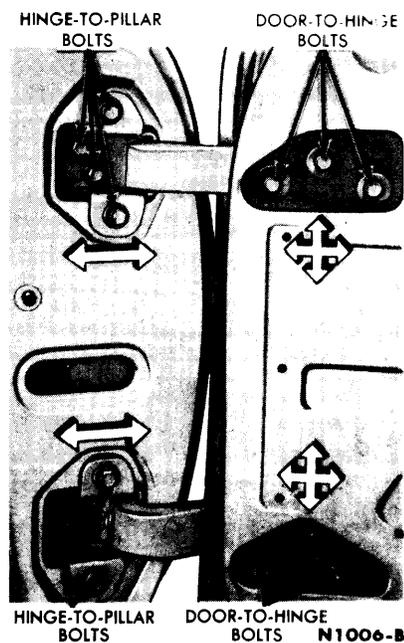

FIG. 1—Door Hinges
hinge pillar bolts, and replace the hinge (Fig. 1).
misalignment conditions. The elongated holes where the hinges attach to the pillars provide in-and-out movement of the front door to obtain flush fits with the front fenders (Fig. 1).
The bolt holes where the doors attach to the hinges are enlarged. This permits a circular movement of the front door to obtain proper spacing all around the door (Fig. 1).
1. Consult Fig. 1 to determine which hinge bolts must be loosened to move the door in the desired direction.